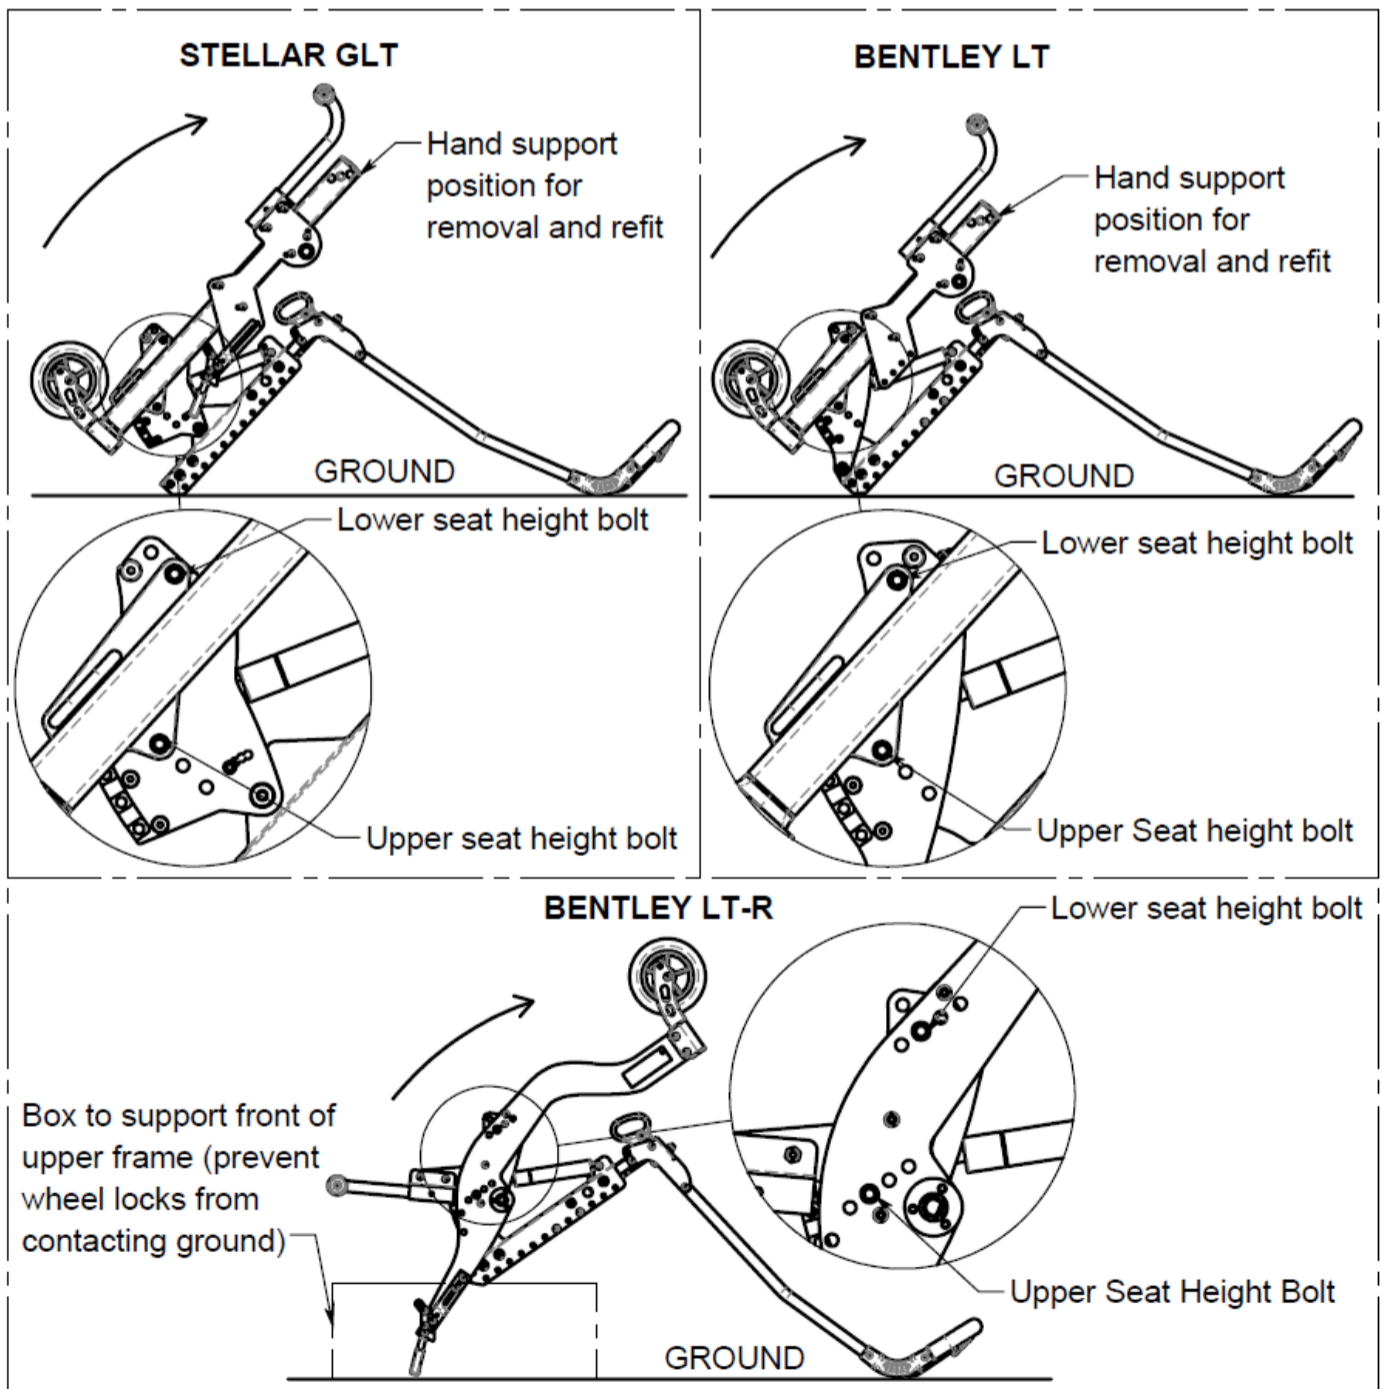

Figure 16.6: Recommended chair position for Height Adjustment
1. Remove the wheels, front rigging, and arms from the chair. Tip it forward so that it is resting on the back post and front rigging receivers as shown in Figure 16.6: Recommended chair position.